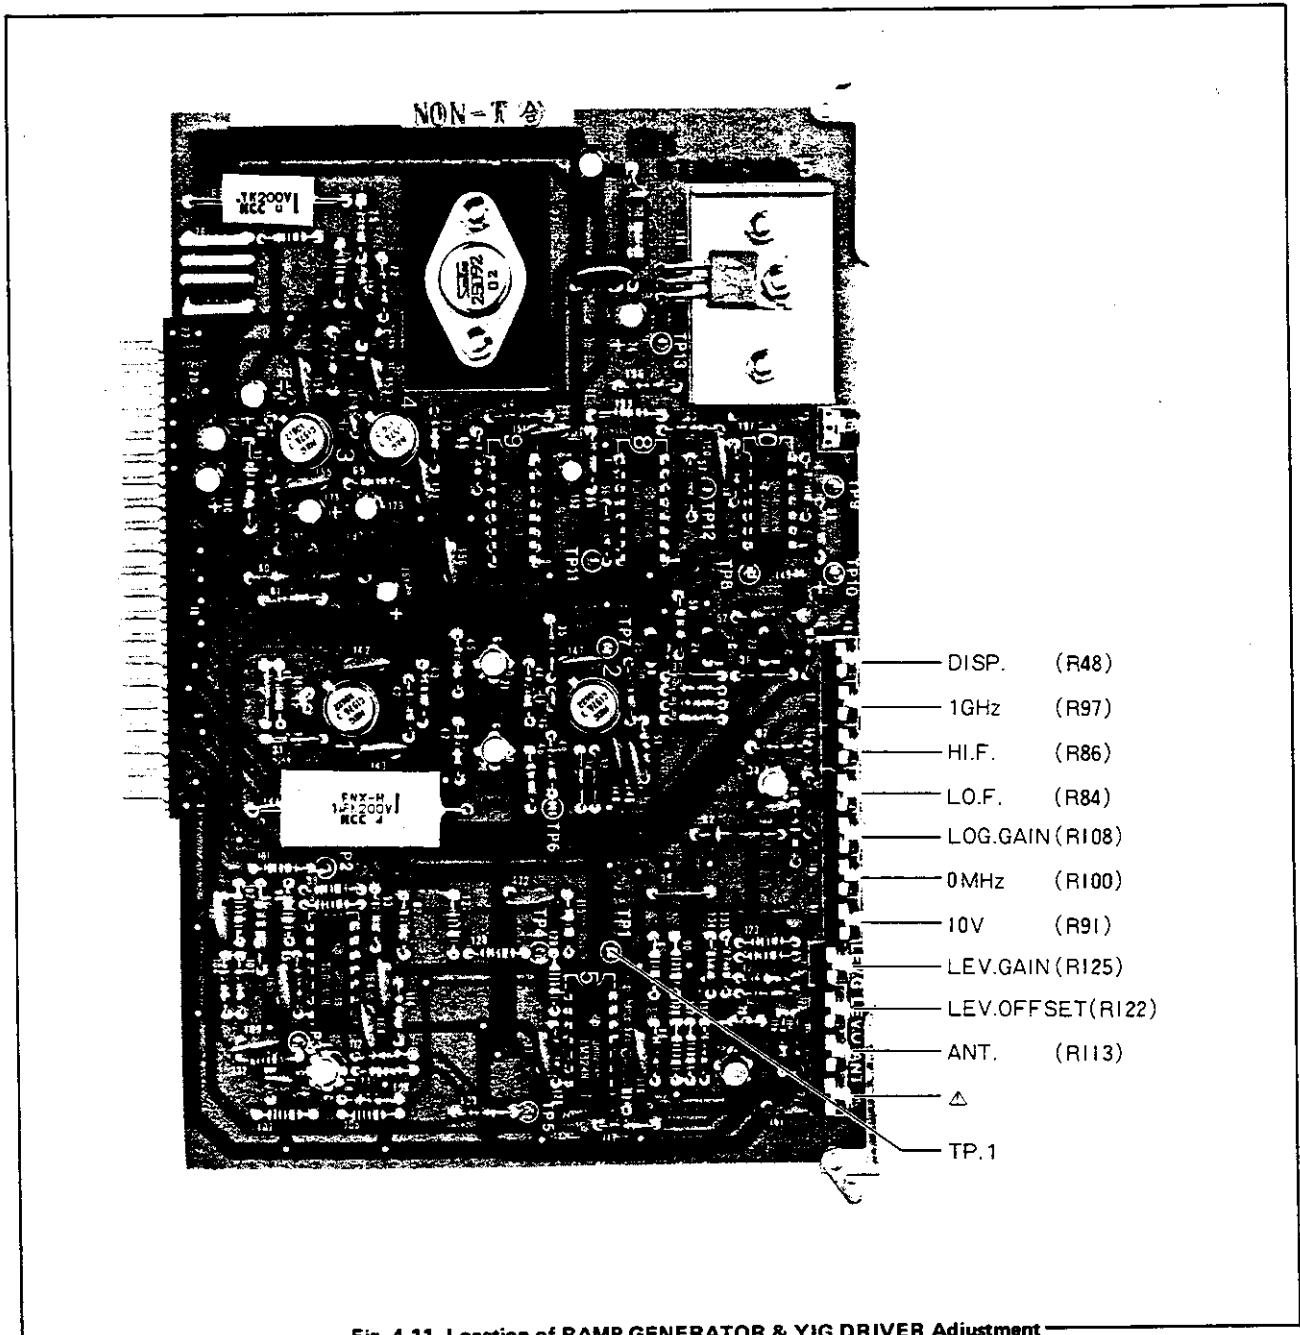

Fig. 4-11 Location of RAMP GENERATOR & YIG DRIVER Adjustment
- (1) First, remove L type metal supporting the Boards PF130 and PH209, and dismount Board PH209 before entering into an adjusting procedure. Connect Board PH209 to the instrument with a plain adjusting board.
- (2) Reset specific control from the initial settings (Para 4-2-3-(3)) as follows:
- (3) As shown in [Fig. 4-11], Disconnect Connector J53 from the output of Board SK030, that is the input of IF 1dB-step Attenuator (MEP-263). With the UM-UM Adapter (UM-QA-JJ), connect the Signal Generator output (3.33MHz, +6dBm) to J53 through the external Attenuator.